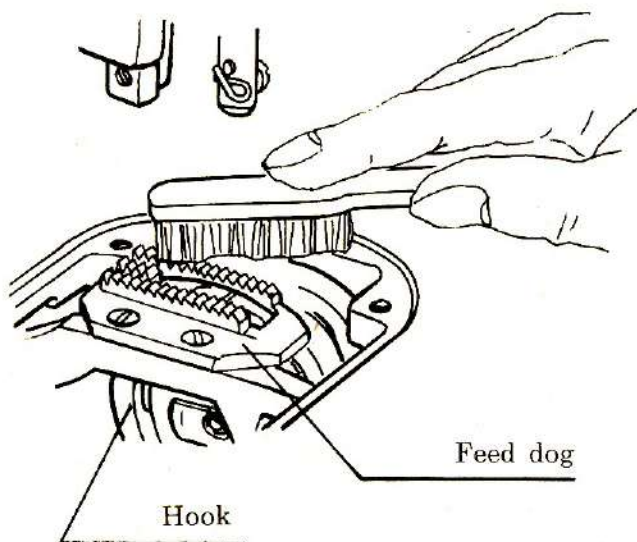

Fig.33
1. cleaning of the feed dogs (fig.33)